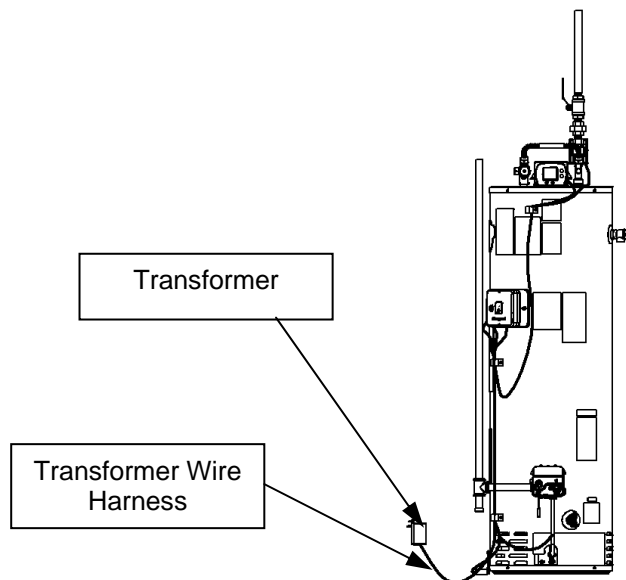

Figure 107
Step 6: Route the Transformer wire harness, so it is not in trip contact or touching the floor between the water heater and dam. This is shown in Figure 107.